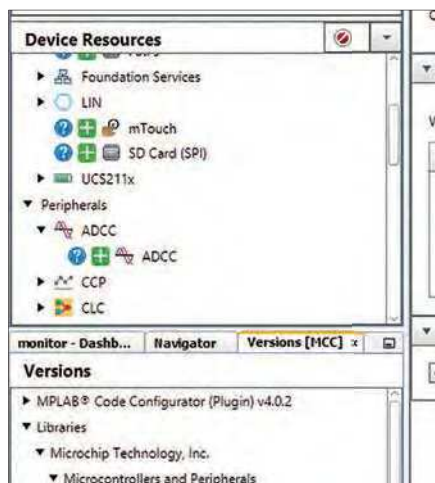

Fig.7. Adding the ADC module from MCC.
- Click the triangle next to the ADCC entry in the Device Resources panel, and then click on the green plus icon, as shown in Fig.7.